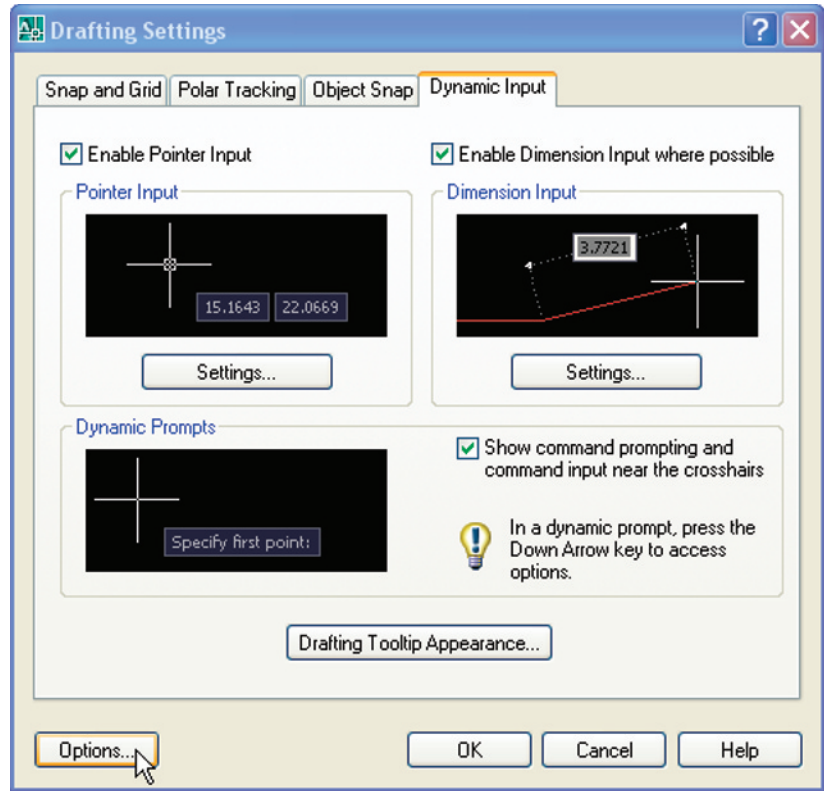

Fig. 3.21 Settings for **DYN** can be made in the **Drafting Settings** dialog
2. Settings for **DYN** can be made in the **Drafting Settings** dialog (Fig. 3.21), brought to screen by *entering* **ds** at the command line.